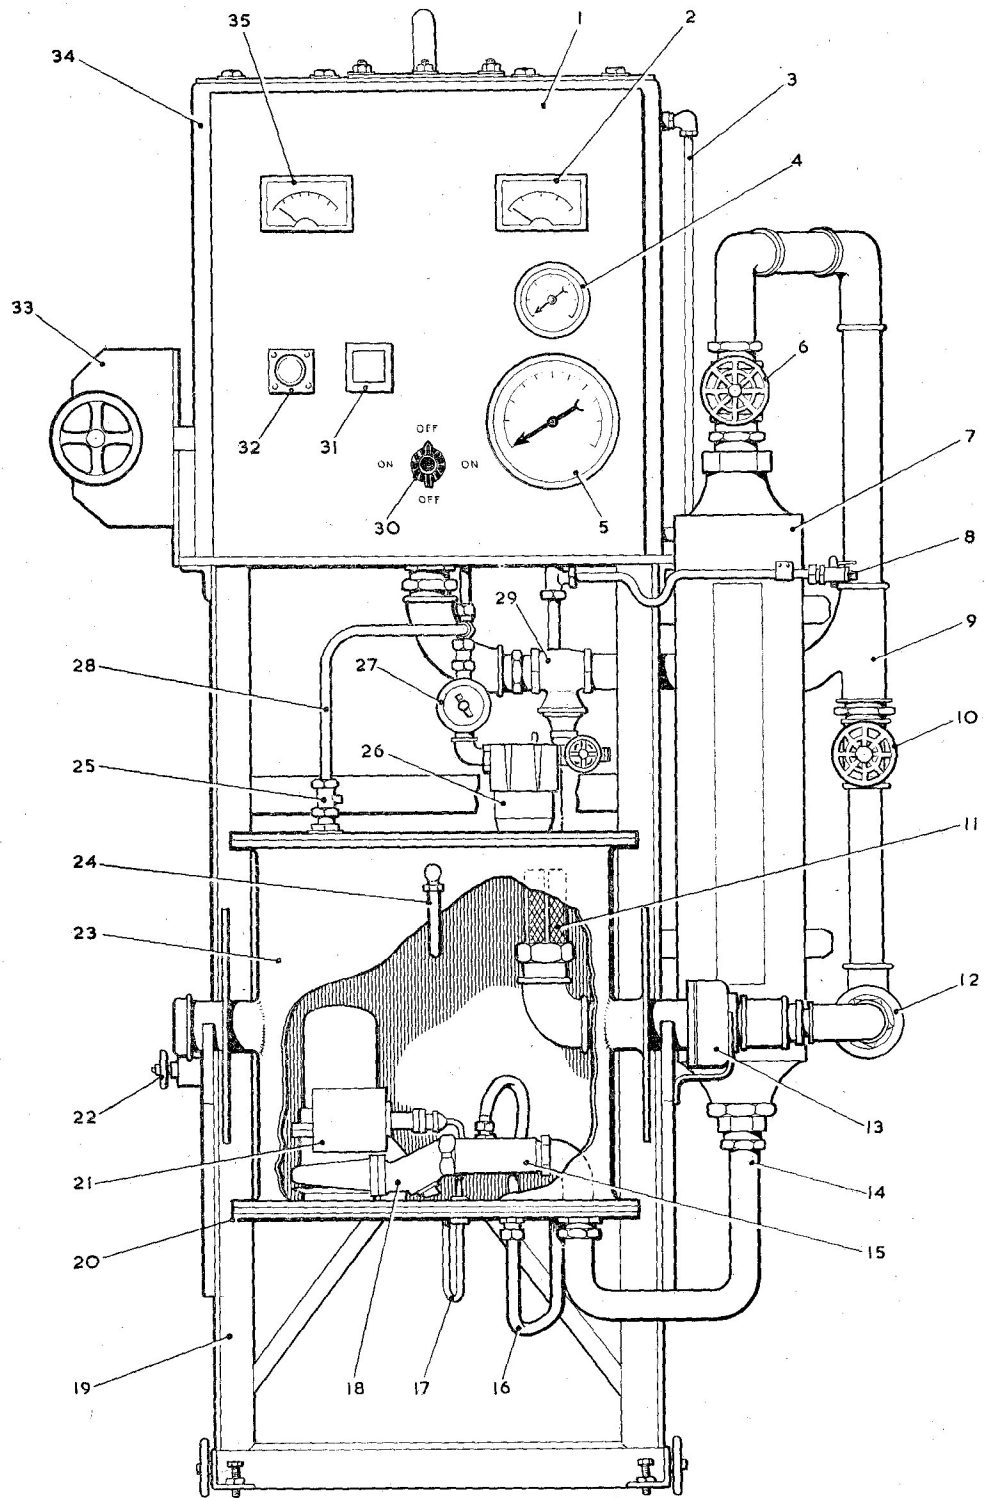

Fig. 12. Test rig
Key to Fig. 12
51. A diagrammatic arrangement of a suitable type of test rig that could be used for SPE.1302 fuel booster pumps is illustrated in fig. 12. The universal test rig 5G/3494 may be used as an alternative if a suitable mounting adapter plate is available. Use AVTUR fuel for testing.